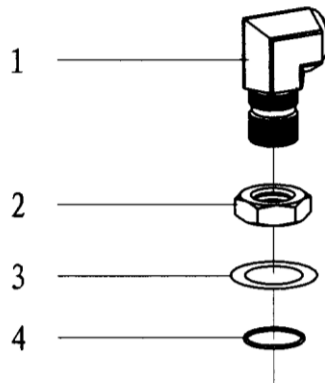

Fig.7-15
15. Bend sub (NPT1 1/4-1 5/8-12UN) (Figure 7-15, Table 15)